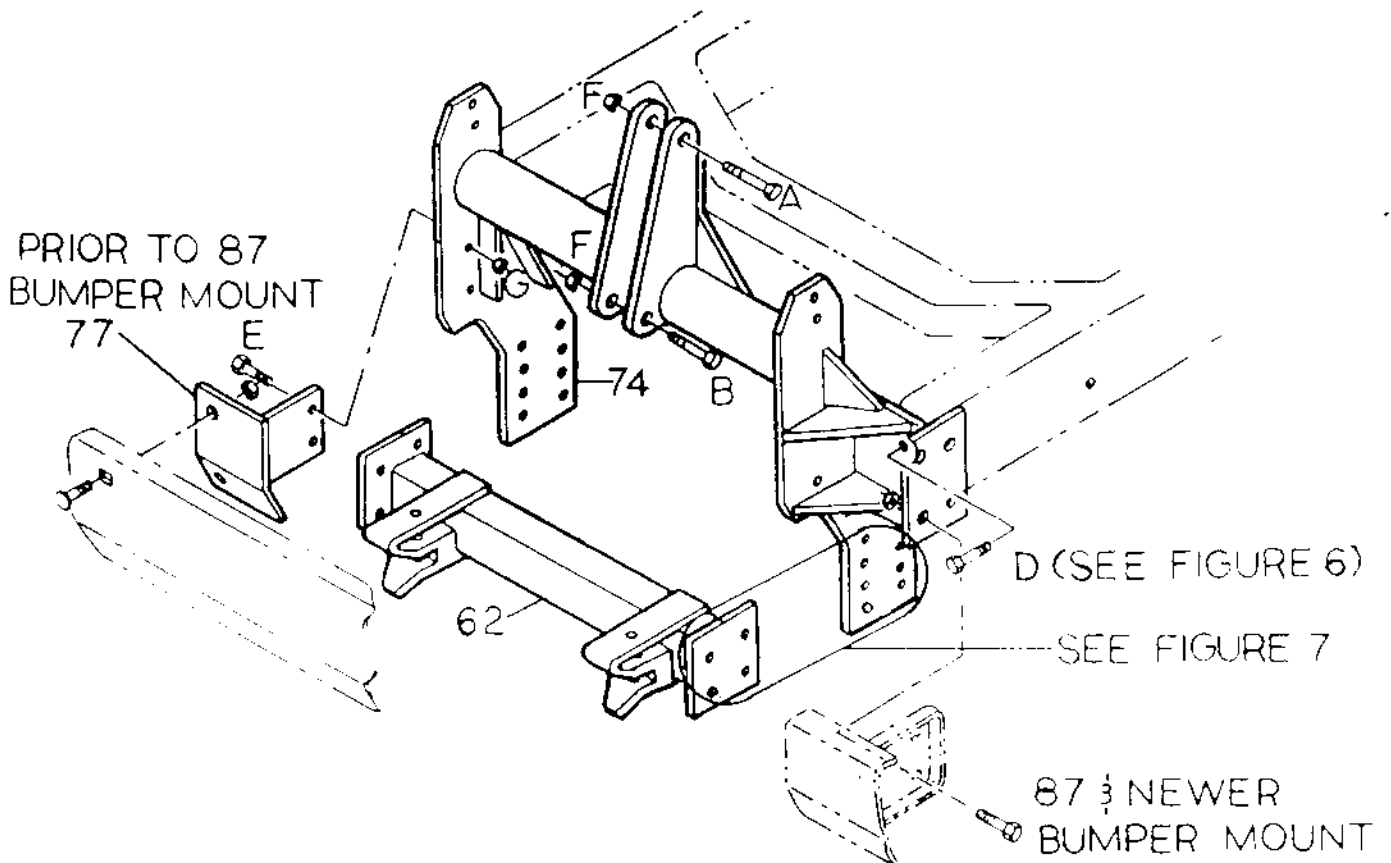

FIGURE 3
2. Position the LIFT TOWER ASSEMBLY (Ref. No. 74, Fig. 3) to the front frame rails of the truck. Using hex head bolts, flat washers, and self locking nuts provided bolt the LIFT TOWER ASSEMBLY to the front frame rails (Ref. Figure 6). Fasteners should only be finger tight.
4. Attach the PUSH BEAM ASSEMBLY to the LIFT TOWER ASSEMBLY as shown in Figure 3 using hex head bolts and self locking nuts, fasteners should only be finger tight. To determine the mounting height of the PUSH BEAM ASSEMBLY see plow type below:
7. Reinstall the front bumper directly to the LIFT TOWER ASSEMBLY as shown in Figure 3 for 1987 and newer Fords. For Fords prior to 1987 use the bumper adaptor brackets as shown in Figure 3.